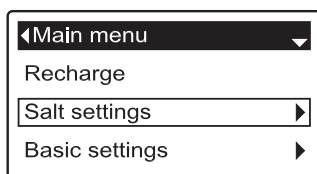

FIG. 24
1. From any of the rolling status screens, press the SELECT (O) button to display the **Main menu**.
2. Press the DOWN (▼) button to scroll through the menu options until **Salt settings** is highlighted (See Figure 24).